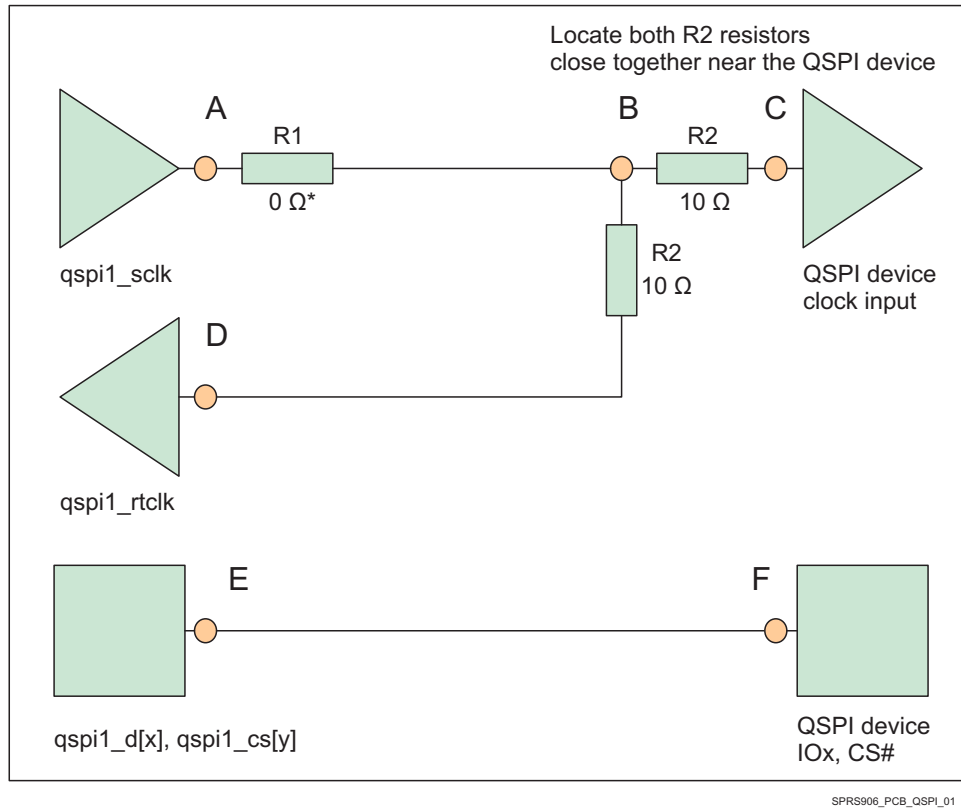

图 8-30. QSPI Interface High Level Schematic
- $50\ \Omega$ PCB routing is recommended along with series terminations, as shown in 图 8-30.